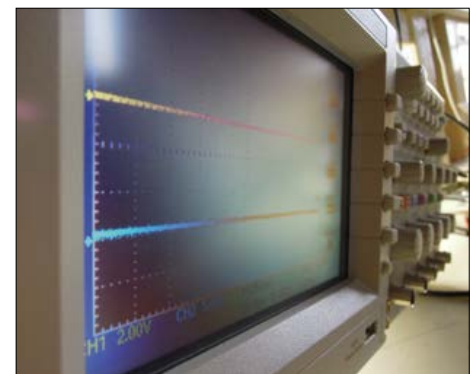

Figure 3. Some displays are almost impossible to read from an angle (that white haze on the right of the display is not a reflection!).
**A** Most certainly! In particular with the cheaper scopes, manufacturers often use displays which are difficult or very difficult to read at even small viewing angles (see **Figure 3**). Unfortunately the product description usually doesn't mention the specifications of the display used.